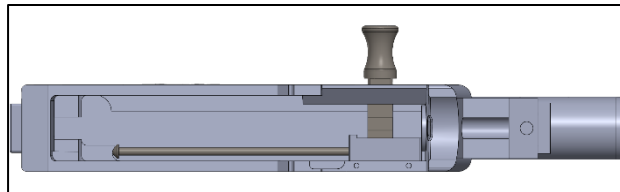

Figure 29
- With the bottom side of the receiver facing upwards, insert the long end of the cocking handle assembly into the receiver through the ejection port. Seat the pointed end of the cocking handle assembly into the rear seat in the receiver – Figure 29. The cocking handle assembly should sit flat in the receiver.